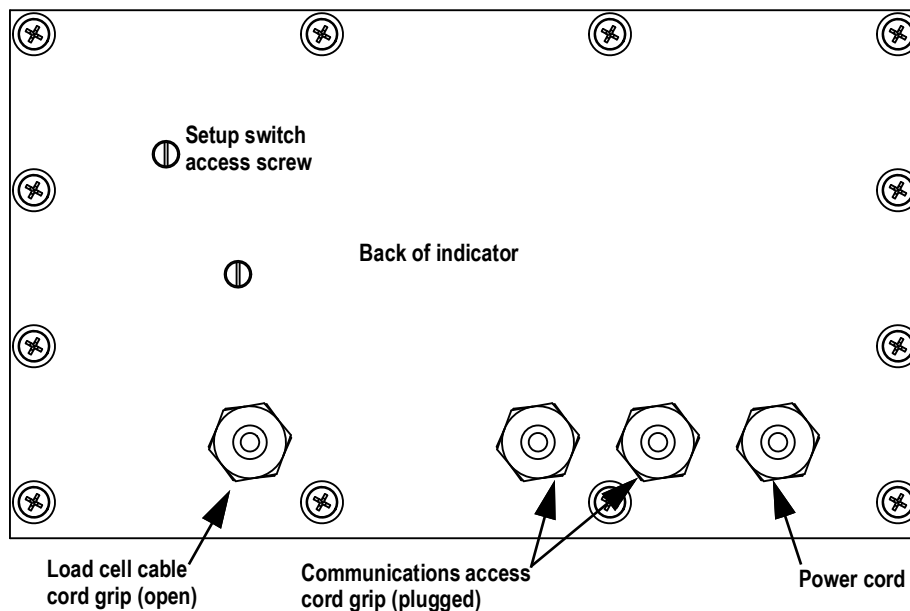

Figure 2-1. Recommended Cord Grip Assignments
1. Remove the setup switch access screw from the back of the enclosure, See Figure 2-1 on page 18.
The 480 provides four cord grips for cabling into the indicator: one for the power cord, three to accommodate load cell, communications, digital inputs and outputs, and analog output cables. Two of the three free cord grips come with a plug installed to prevent moisture from entering the enclosure. Depending on the application, remove the plug from another cord grip that will be used and install cables as required, See Figure 2-1 for the recommended assignments for the 480 cord grips.